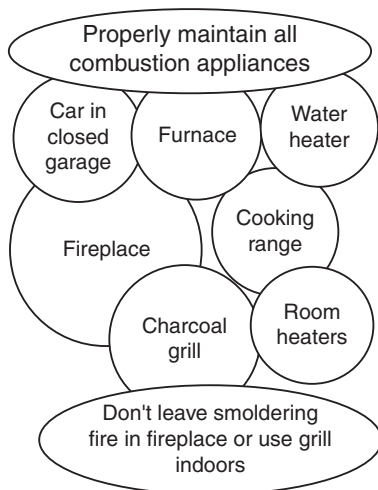

Figure 17.2
- Carbon monoxide⁹ In enclosed spaces CO causes hundreds of deaths in the United States each year. Lower levels of this colorless odorless gas can lead to headaches, dizziness, nausea, and flu-like symptoms. The US Consumer Product Safety Commission (CPSC) recommends that households install CO detectors that will sound an alarm if CO reaches unsafe levels. *To largely eliminate CO emissions, combustion appliances need good maintenance.* This is true of all types of stoves and furnaces and of fireplaces, and chimneys, and their connections. Kerosene heaters should be vented outdoors. Also vent stove hoods to the outside and install appliances according to the manufacturer’s instructions. Don’t leave a fire smoldering in a fireplace; if a fire is still burning, close it off from the room (Figure 17.2).